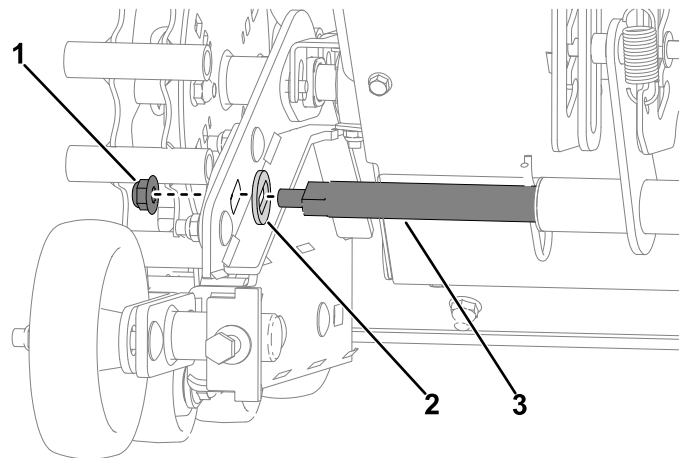

Figure 31
4. Install the 2 special washers on the pivot bar in the pivot hub. Install the pivot bar with the special washers to the track assemblies and pivot plate, secure with 2 new locknuts (3/8 inch) (Figure 31).